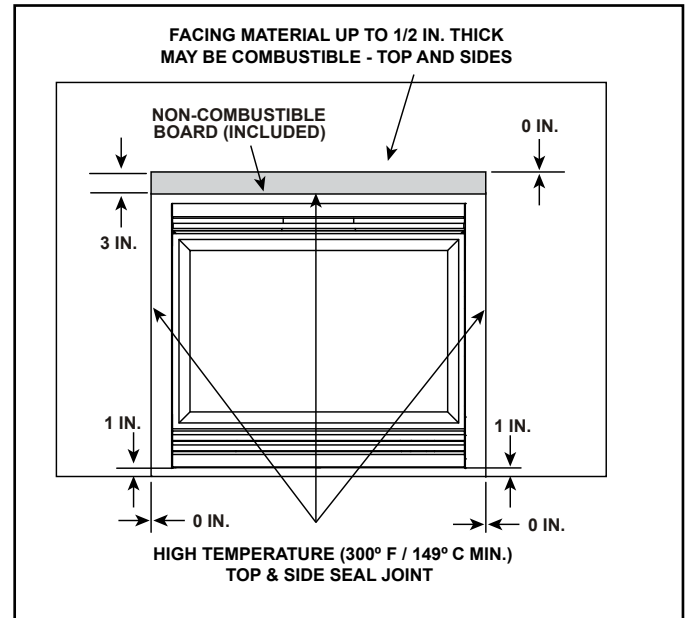
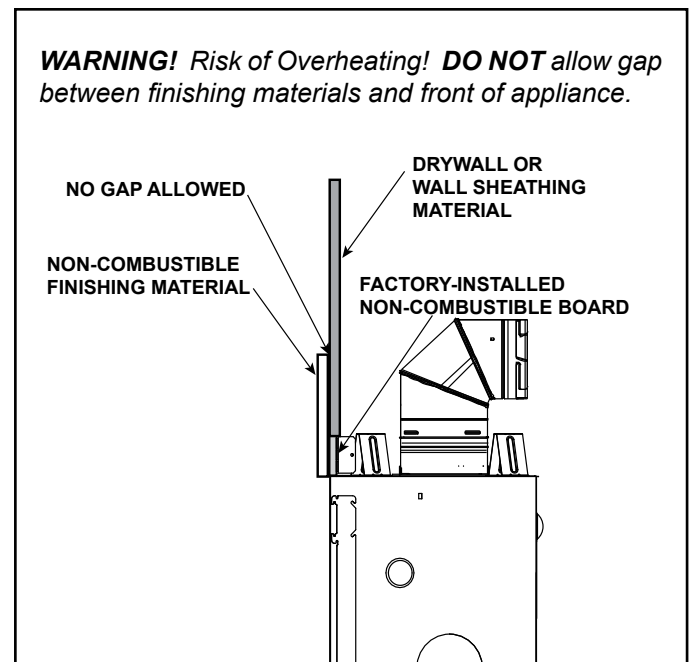

Figure 10.1 Non-combustible Facing Diagram
Figure 10.2 Finishing Material Installed
- Seal gaps between the finished wall and appliance top and sides using a 300 °F minimum sealant. Refer to Figure 10.1 and Figure 10.2.
- Finishing materials must be installed with no gaps in order to prevent the escape of heat between the finishing material and the wall. See Figure 10.2.